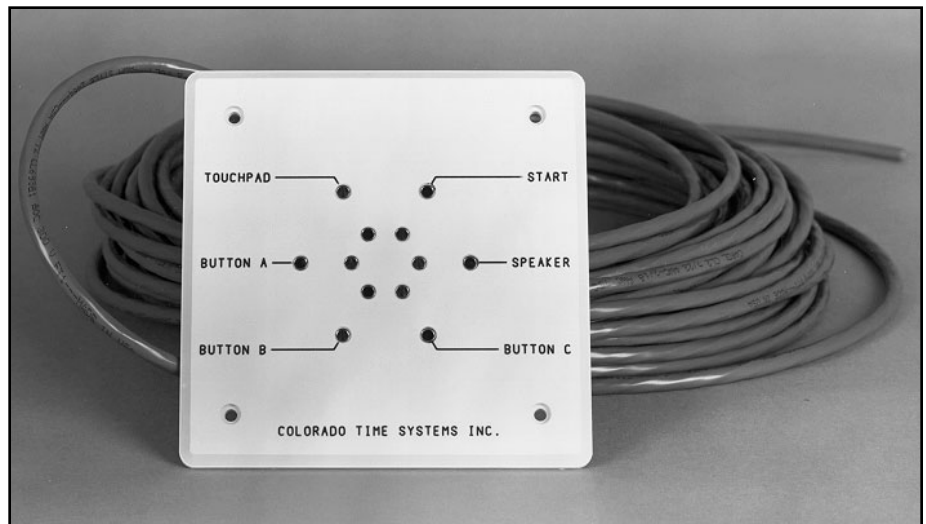

Figure 6 - Deck plate
- 4) Once all the touchpads have been checked using the test meter, insert the touchpad plugs into their corresponding deck plate jacks (see Figure 6) or cable harness pod (see Figure 12).